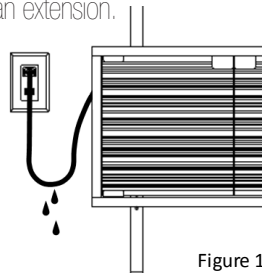

Figure 1
C. To prevent water from traveling along the cord and coming in contact with the electrical outlet or power supply, a drip loop must be arranged by the user for each cord connecting the appliance to the electrical outlet as shown in figure 1. The drip loop is the part of the cord below the level of the receptacle, or the connector if there is the use of an extension.